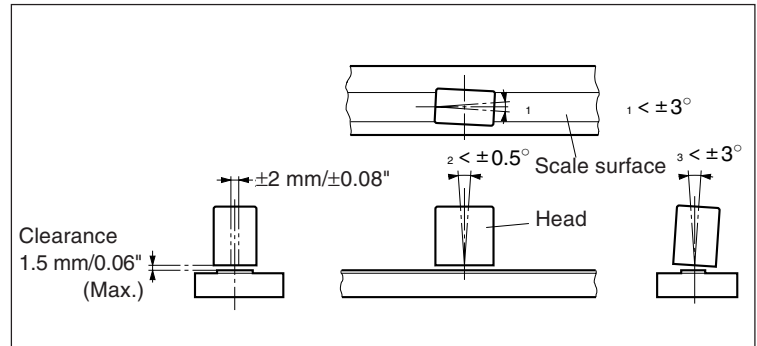

Fig. 3-2
- The relative positions of the scale and head should be as shown in Fig. 3-2.